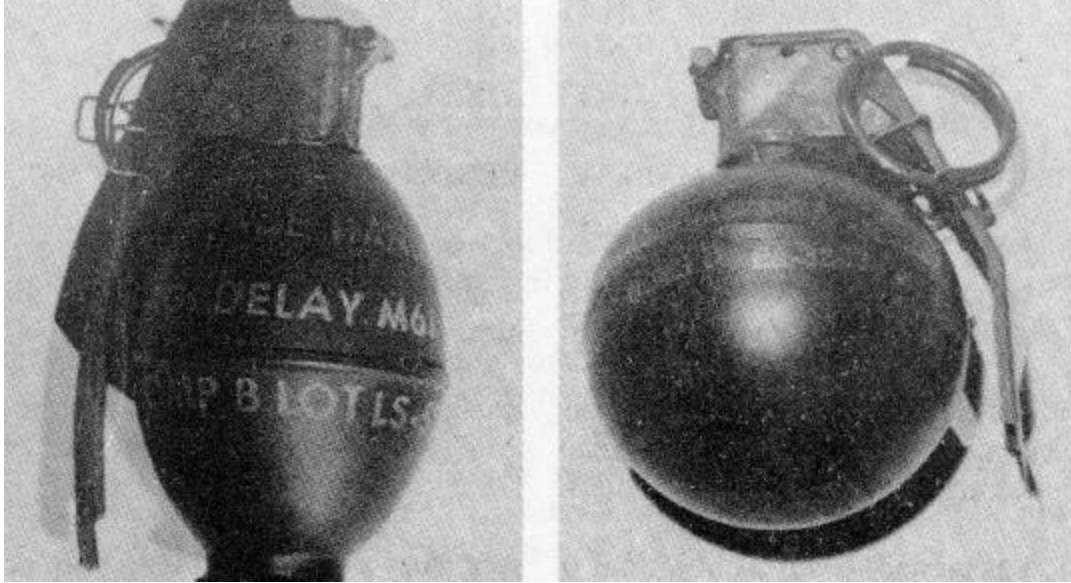

Figure 2-1 Fragmentation Grenades
1. The M61 is egg-shaped and has a flat base. The M67 has a spherical shape. Both grenades are shown in Figure 2-1.